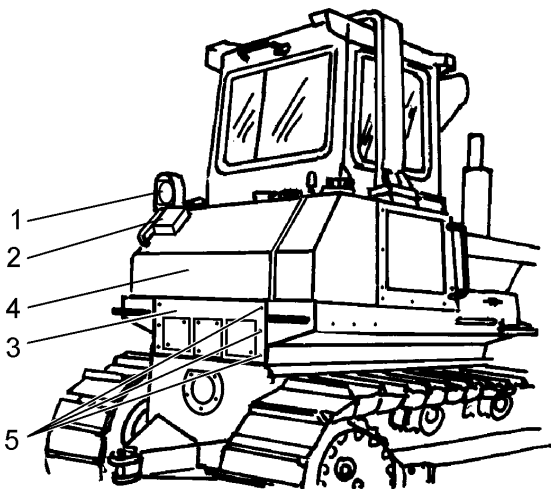

Fig. 7E.1. Rear of the Machine
2. Unscrew bolts (5, Fig. 7E.1) securing rear plate (3) and remove the plate from the machine.
3. Open the fuel drain valve (2, Fig. 7E.2) and drain the fuel tank (1). Close the drain valve (2).